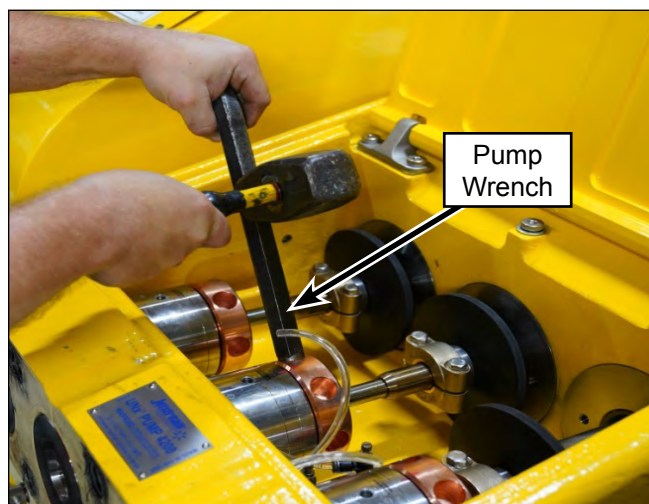

Figure 61: Tighten the Gland Nut.
8. Use the pump wrench and a 5 lb. (2 kg) hammer to tighten the gland nuts to approximately 250 ft.-lb.(338 N·m). Hit the wrench about three times using moderate force. This will supply sufficient torque on the nut. (Figure 61)